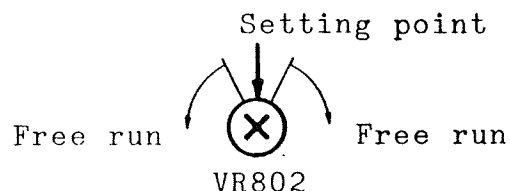

Figure 2-8
- Adjust VR802 as shown in Figure 2-8.